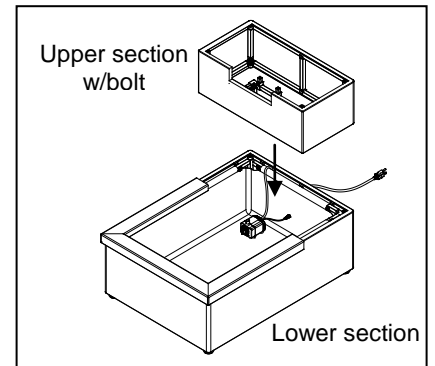

Fig. 2
2. Place the Upper section on to the lower section. Fig. 2